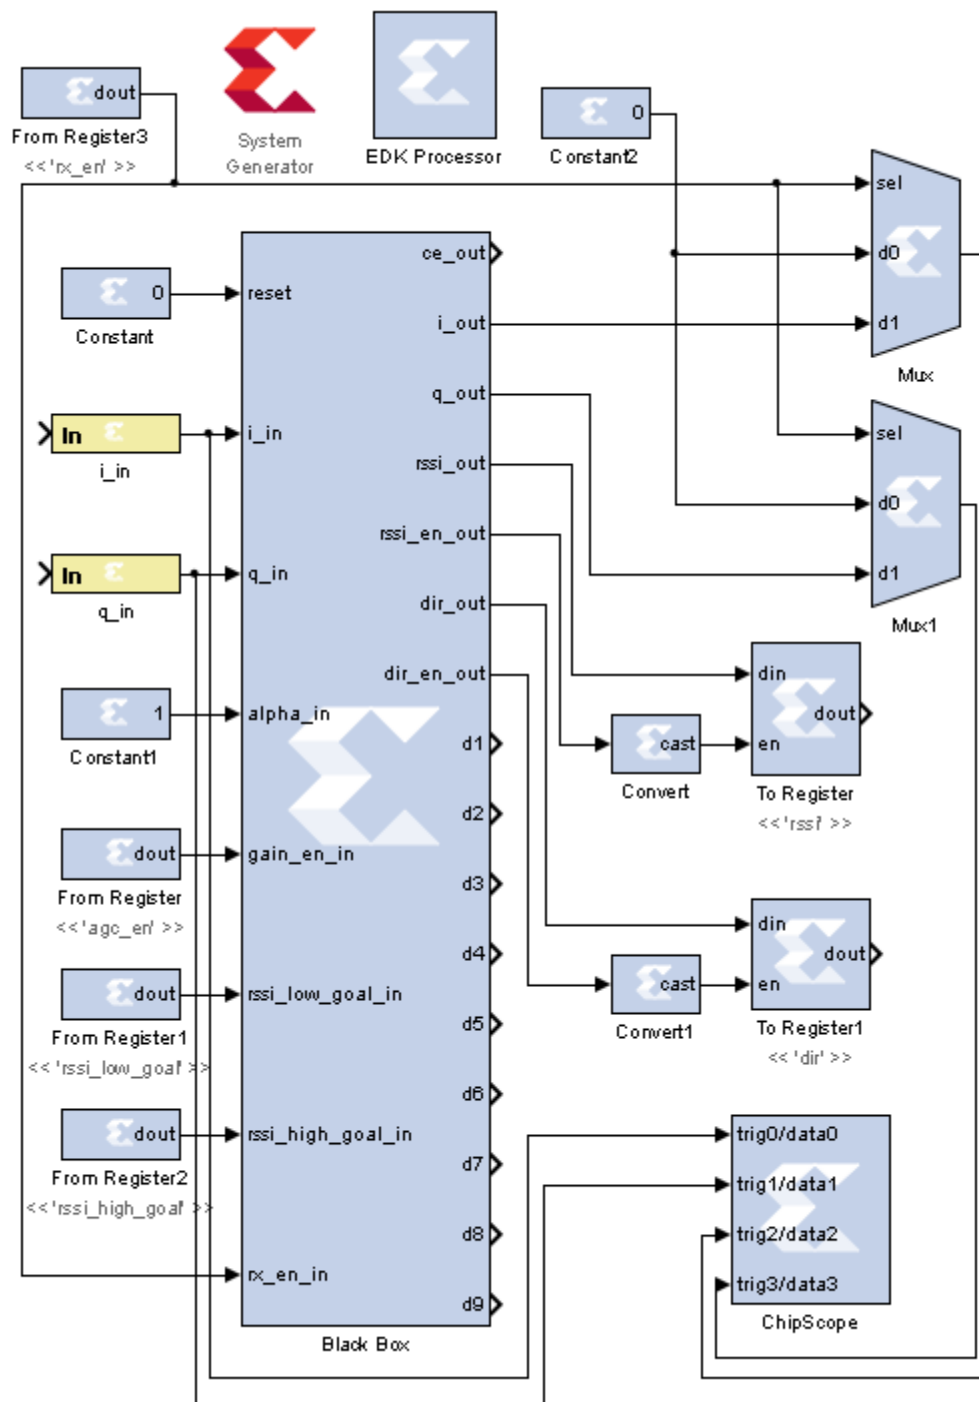

Figure 2-4: Simulink model for receiving ADC output and applying DC Offset Correction
Now we will modify the previously created `dc_offset.slx` model created earlier. Your design should resemble the **Simulink model**3 shown in Figure 2-4. This model will be used for receiving the ADC output and sending the resultant data to ChipScope for verification. You should notice that several of the outputs of the design (d1-d9) are not connected. These outputs are debug outputs, and only need to be used for finding problems within your design. They have not been included in this lab, however if you have problems with your design, you can simply add these output to your ChipScope input block for help in finding problems with your MATLAB design.
1. **Modify** the Simulink model `dc_offset.slx` created earlier to look similar to Figure 2.4.